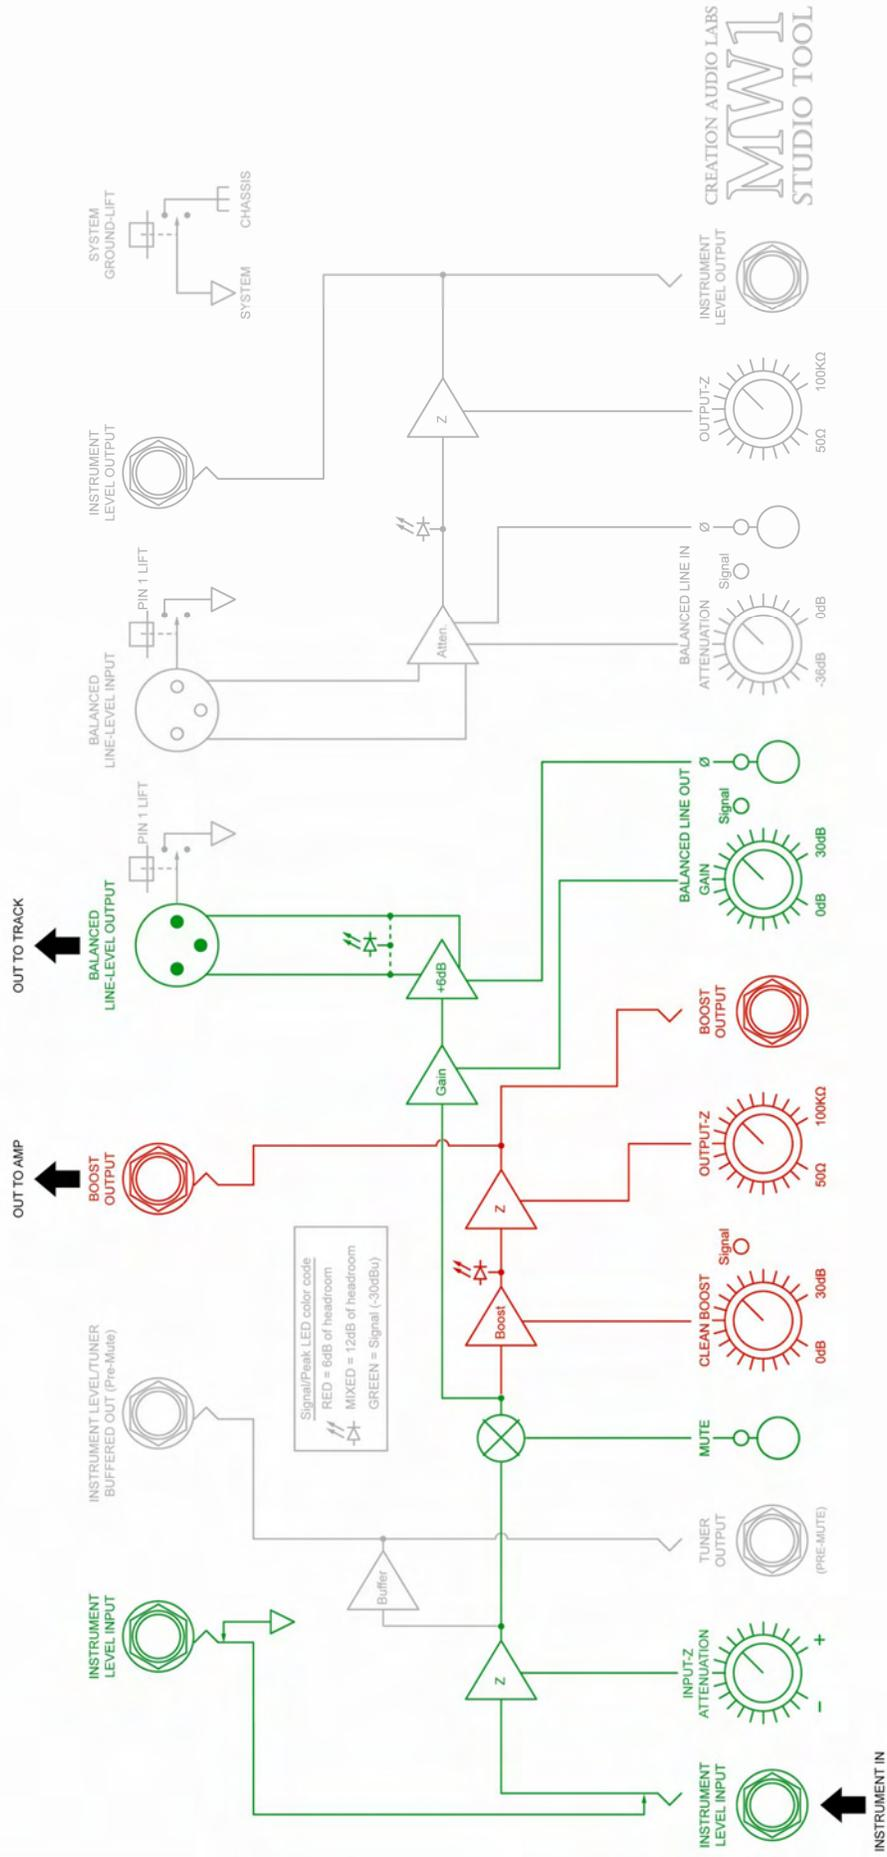

FIG. 3
- Record DI and amp tracks simultaneously. (FIG. 3)